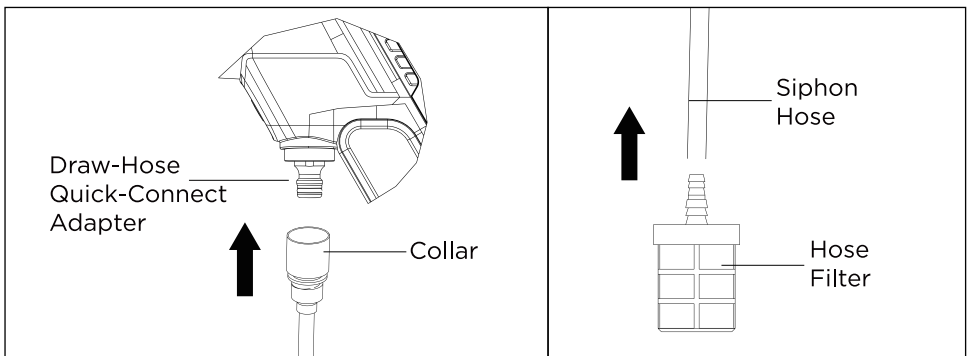

Fig. 5
CONNECTING THE DRAW HOSE TO THE POWER CLEANER (Fig. 5)
3. Push the collar onto the quick-connect adapter until it clicks securely into place. (Fig. 5)